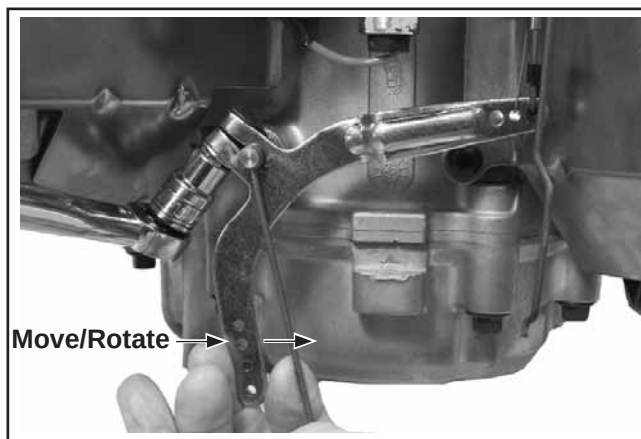

Figure 10-72. Adjusting Governor Lever (Air Cleaner Base Removed for Clarity).
7. Insert a nail or similar tool into the hole on the cross shaft and rotate the shaft counterclockwise as far as will turn, then torque the hex nut to **6.8 N·m (60 in. lb.)**. See Figure 10-72.